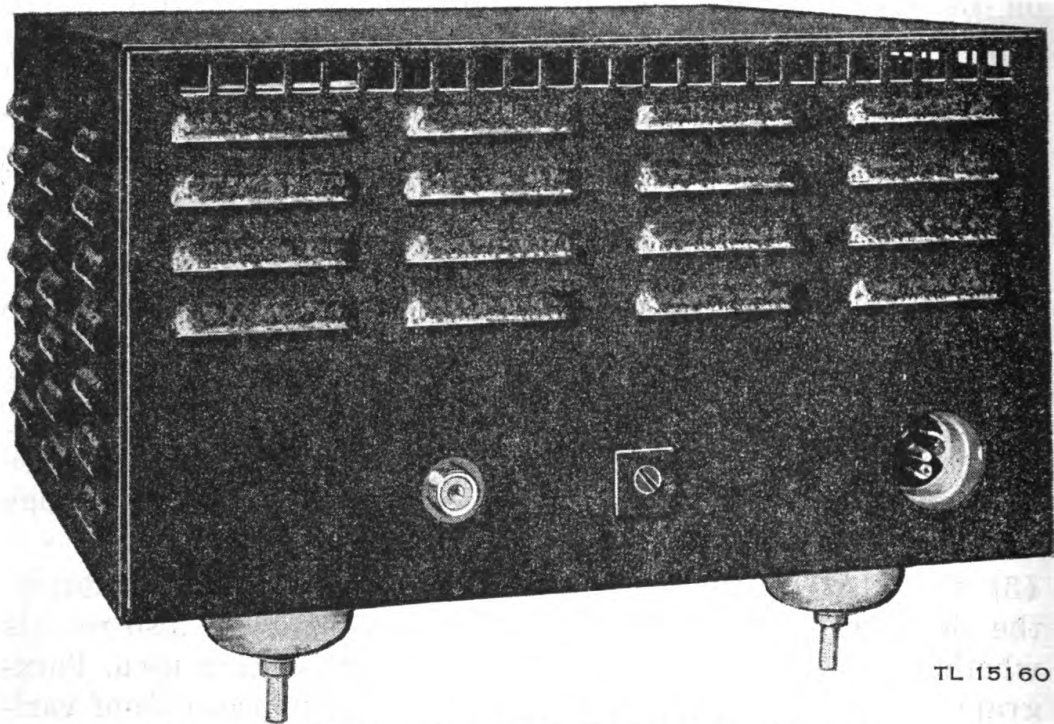

Figure 4. Panoramic Adaptor BC-1031-A, rear view.
(1) Make sure the receiver has an intermediate frequency which corresponds to the input frequency of the adaptor (par. 7).
(2) Cord CD-806 is a coaxial cable with identical male plugs at either end. Fit one plug into the one-pole, threaded, female receptacle near the center of the back of the adaptor (fig. 4). Fit the other end into the receptacle in the radio receiver. If the companion receiver is not provided with a receptacle for operation with a panoramic adaptor, proceed as follows:
d. Connecting to Power Source. When the adaptor has been mounted in the position in which it will be used, attach the power cable (Cord CD-807) to the adaptor. This cable is fitted with a polarized plug. A three-pole twist-type power receptacle is located at the back of the adaptor near the right-hand edge (fig. 4). A